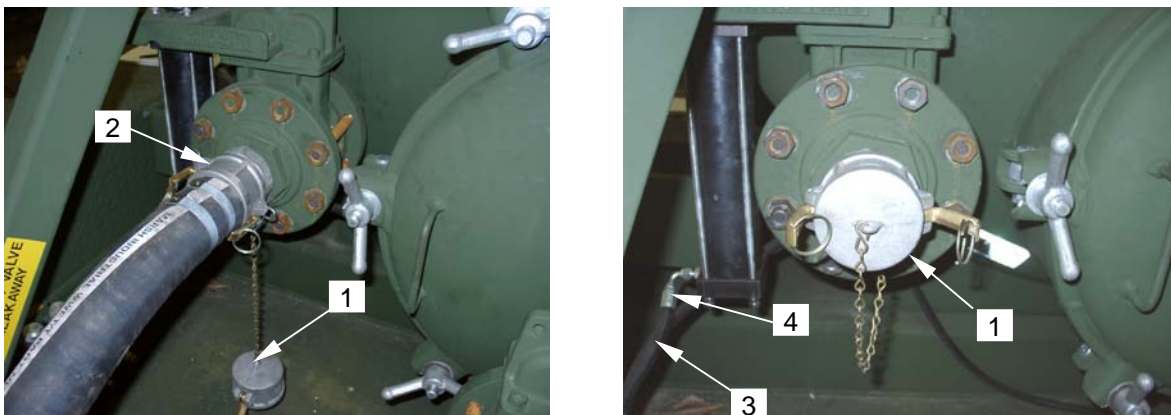

Figure 8. Installing Dust Cap/Hose and Hydraulic Line
17. Install dust cap (**figure 8, item 1**) or 2½-inch hose (**figure 8, item 2**) as appropriate.
18. Re-connect the intake valve hydraulic line (**figure 8, item 3**) to the fitting (**figure 8, item 4**) on the piston valve.